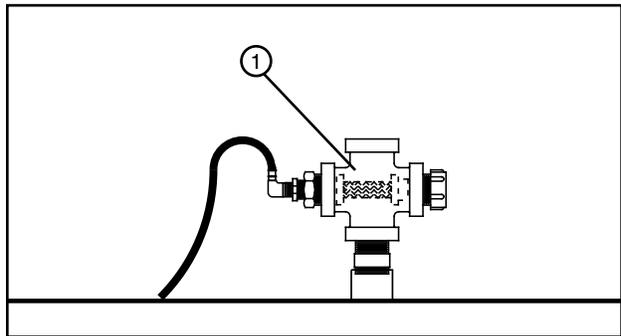

Figure 90-2 1. Cross Filter
- Clean the end gun shut off solenoid valve cross filter or optional dirty water filter. See Figures 90-2 and 90-3.